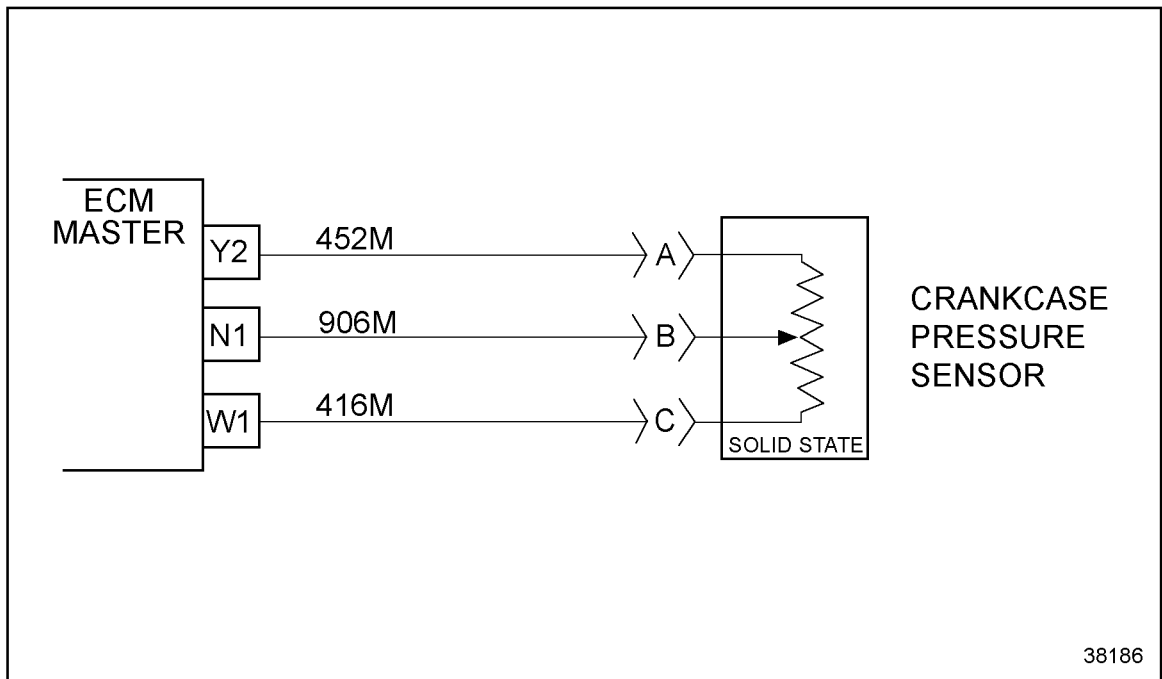

Figure 82-1 Crankcase Pressure Sensor
1. Measure resistance between cavity A #452M and cavity C #416M, and again between cavity A #452M and B #416M of the sensor connector. See Figure 82-1.